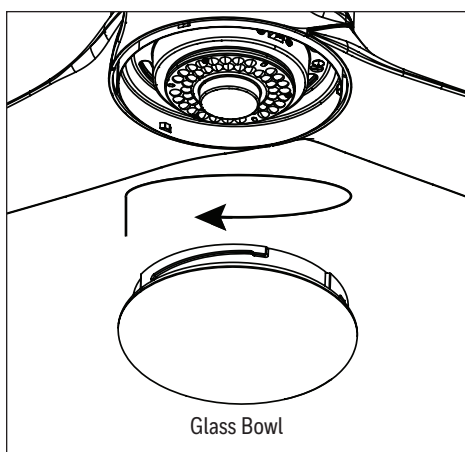

Figure 5.7
**CAUTION:** Avoid cross-threading the glass during installation. Improper installation could cause the glass bowl to be difficult to remove or fall, which could cause serious injury (Figure 5.7).